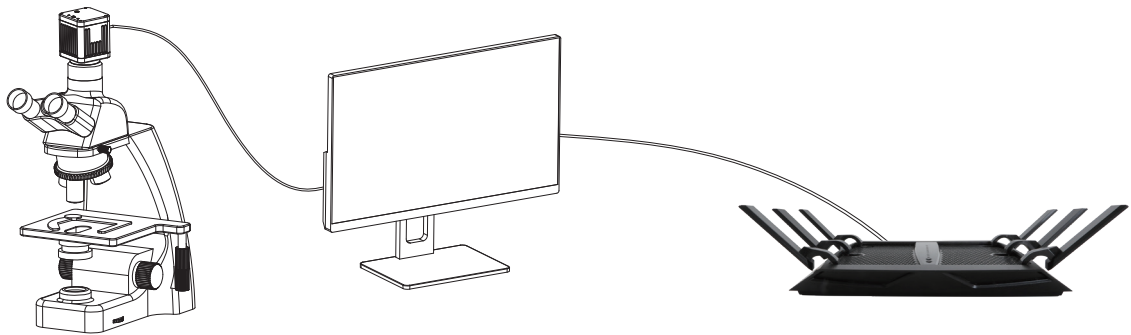

Figure 2
- (1) After mounting the tutor camera on the microscope, connect the Windows PC with the camera's USB cable.
- (2) Connect the Windows PC to the ViMatrix LAN port with a long network cable, as shown in Figure 2 below.